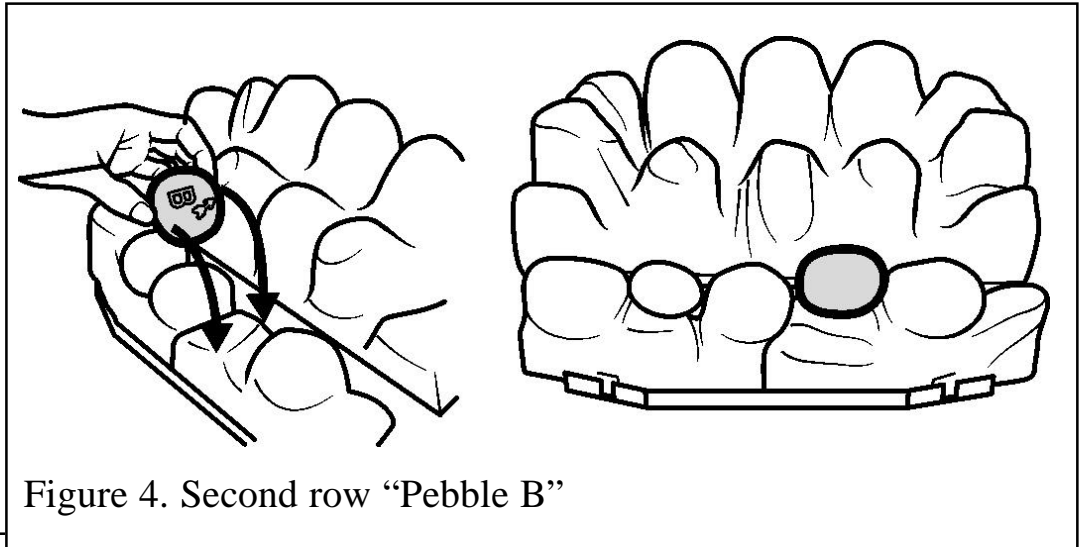

Figure 4. Second row "Pebble B"
6. Hold pebble 'B' upright with the arrow pointing to the top. Locate pebble 'B' as shown in figure 4.